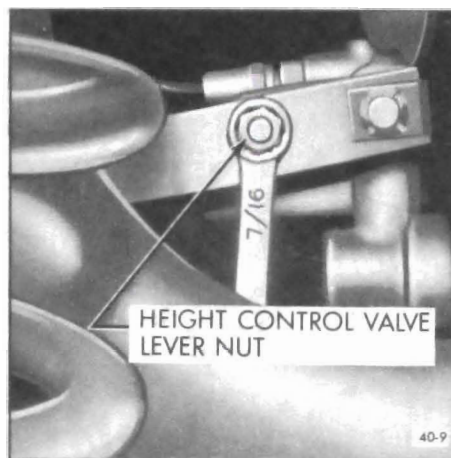

Figure 40-10 - Loosen Height Control Valve Lever Nut
1. Loosen height control valve lever adjusting nut. See Figure 40-10.